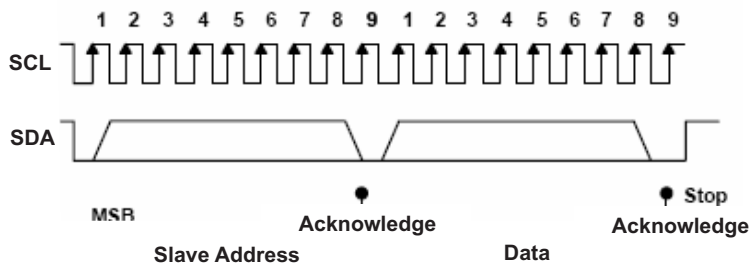

Figure 28. I²C Address and Data Cycles
- The master generates further SCL cycles to either *transmit* data to the slave (R/W bit 0) or *receive* data from the slave (R/W bit 1). In either case, the receiver needs to acknowledge the data sent by the *transmitter*. So an acknowledge signal can either be generated by the master or by the slave, depending on which one is the receiver. The 9-bit valid data sequences consisting of 8-bit data and 1-bit acknowledge can continue as long as necessary (See Figure 28).
- To signal the end of the data transfer, the master generates a *stop condition* by pulling the SDA line from low to high while the SCL line is high (see Figure 28). This releases the bus and stops the communication link